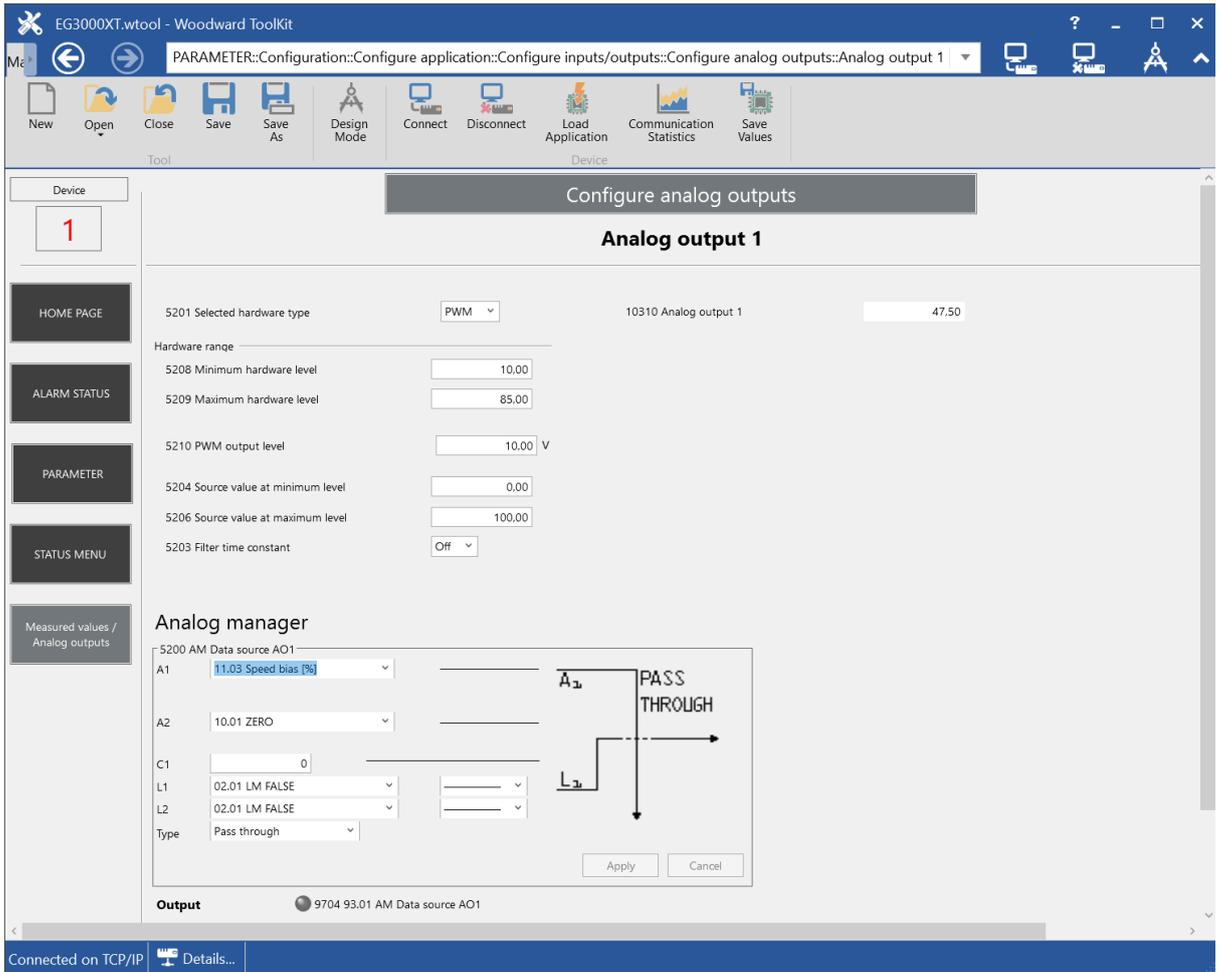

Fig. 259: PWM duty cycle for a CAT ADEM controller (example ToolKit)
▶ The finished configuration in ToolKit is shown in ( Fig. 259).